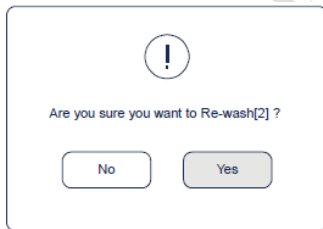

Figure 7-4 : Maintenance wash end interface
- When the interface appears as Figure 7-4, click “Yes” to lift the needle and replace the cleaning cartridge.